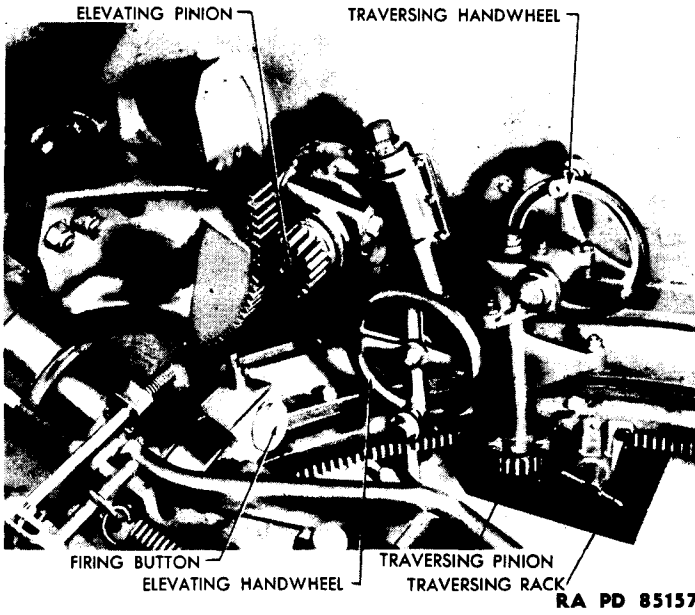

Figure 125 — Elevating and Traversing Mechanisms
a. The traversing handwheel is located on the right side of the turret body. Left traverse is accomplished by turning the handwheel counterclockwise and right traverse by turning the handwheel clockwise (fig. 125).
a. The elevating handwheel is located on the right side of the turret body. With the elevating mechanism engaged, elevation is accomplished by turning the handwheel clockwise (fig. 125).